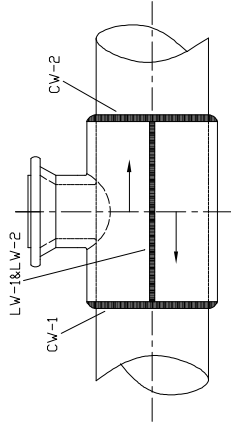

Figure-1 Encirclement Split Tee fitting Welding sequence
- The welding sequence for split tees shall be shown in Figure-1.